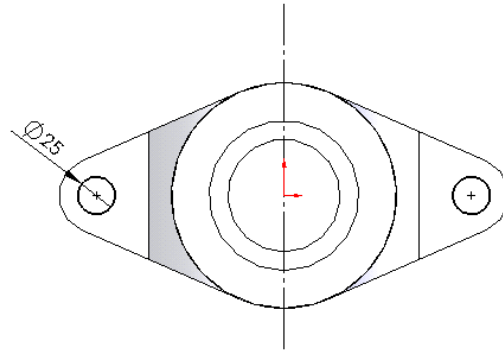

Figure 5-100 Fully defined sketch for cut feature
- Create the holes using the cut feature, refer Figure 5-100 and 5-101.
2. Create the sketch using the standard sketching tools and apply the required relations and dimensions as shown in Figure 5-100.